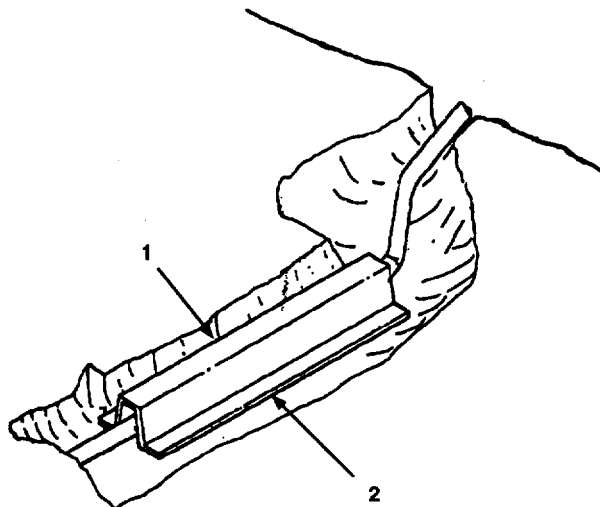

Figure 2-66. Disassembly of Road Crossing Guard.
- a. Dig out road crossing guards (Figure 2-66, 1).
- b. If planks (2) were nailed to bottom of road crossing guards (1), remove nails and remove planks (2).